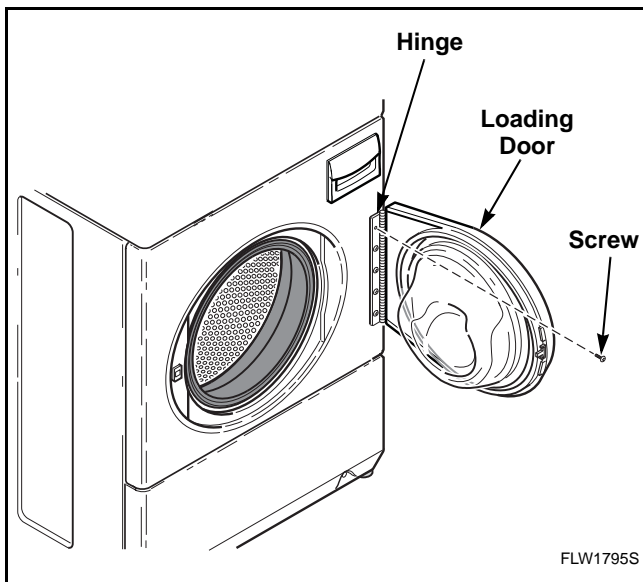

Figure 4
- The loading door can be adjusted up or down somewhat by loosening screws holding door hinge to front panel, then raise or lower door before retightening screws. Refer to *Figure 4*.